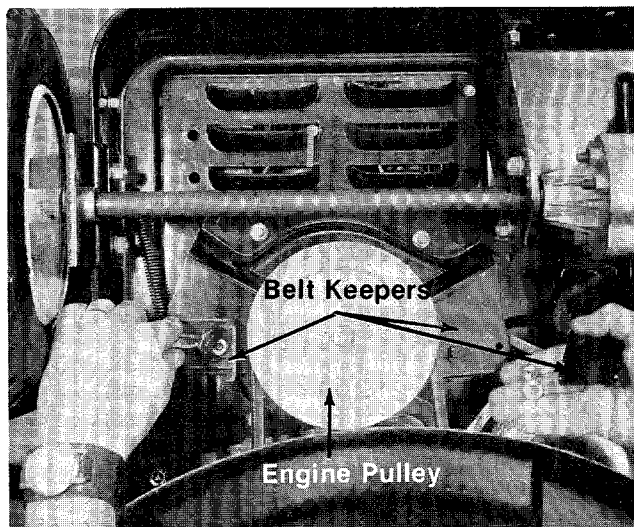

FIGURE 20. REMOVAL OF BELT KEEPERS
2. Remove two belt keepers at the engine pulley. See figure 20.